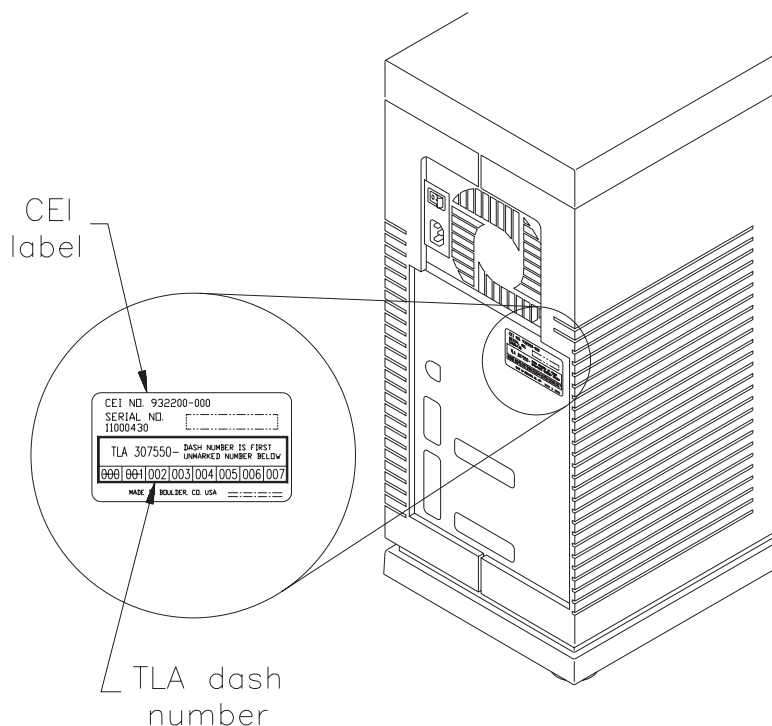

Figure 1 TLA dash number 002 on the back of older Exabyte 210 libraries
► **Important** If you are converting an older standalone Exabyte 210 library, with a CEI label like the one shown in Figure 1, the TLA dash number must be 002 or higher. The TLA dash number is displayed on the CEI label on the back of the library, with previous levels crossed out.